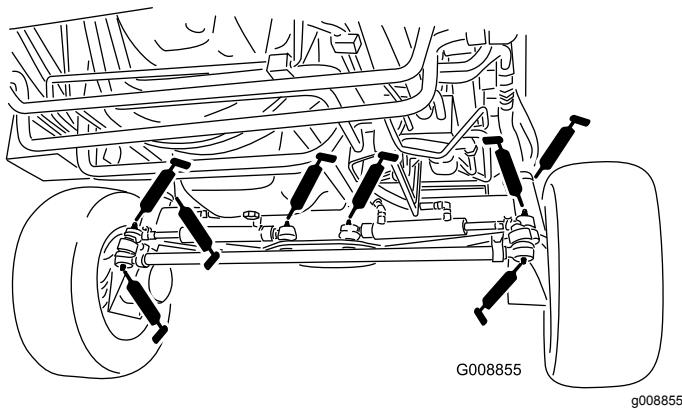

Figure 70
- 4 steering-cylinder-ball joints (Figure 70)
- 2 tie-rod-ball joints (Figure 70)
- 2 king-pin bushings (Figure 70)